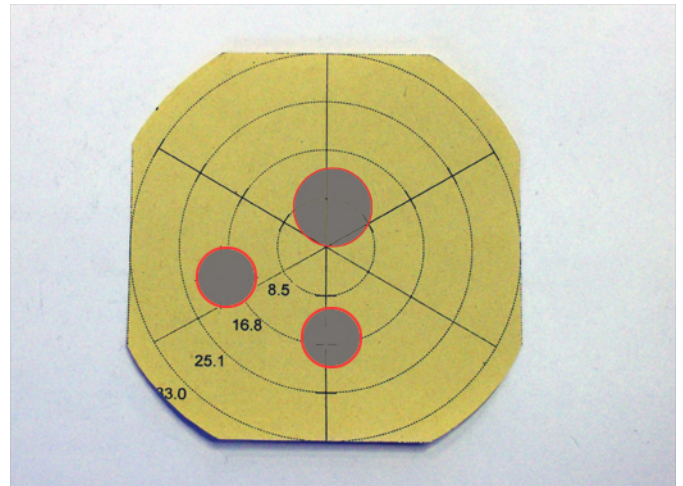

Figure 1
- **Spray pattern OK:** The three spray beams are equally distributed and around the same size. (figure 1)